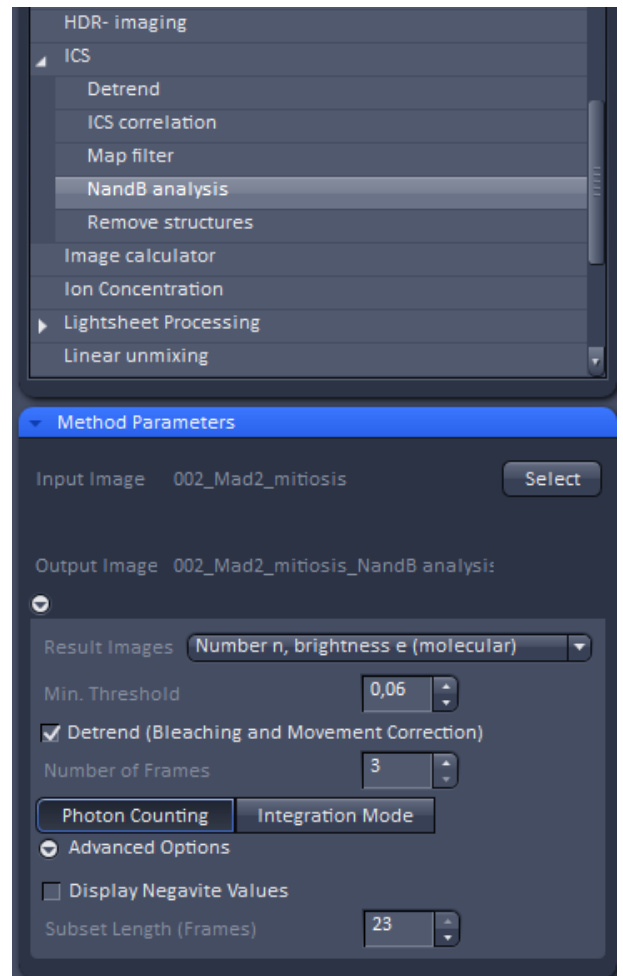

Fig. 435 NandB Method Parameters tool
- Click **NandB Analysis** in the **ICS** tool. The **Method Parameters** tool shows the input options for this function (Fig. 435).